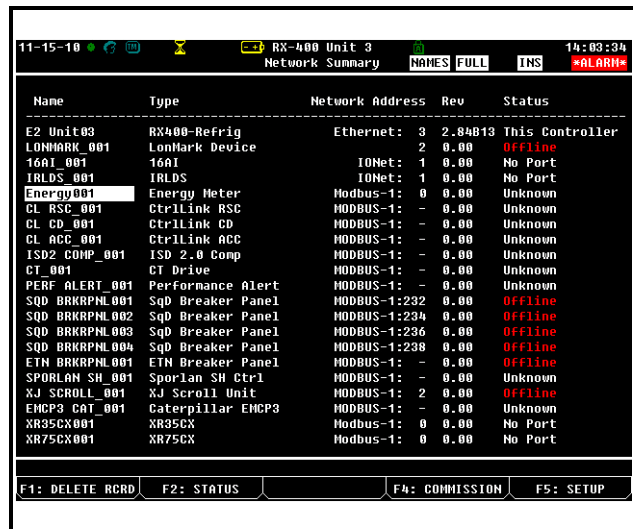

Figure 6-4 - Network Summary Screen
- When finished, press to return to the Network Setup menu, then press - **Network Summary** (Figure 6-4). Locate the Energy Meters you set up, and look at each device's status in the **Status** field. You will see one of the following messages: